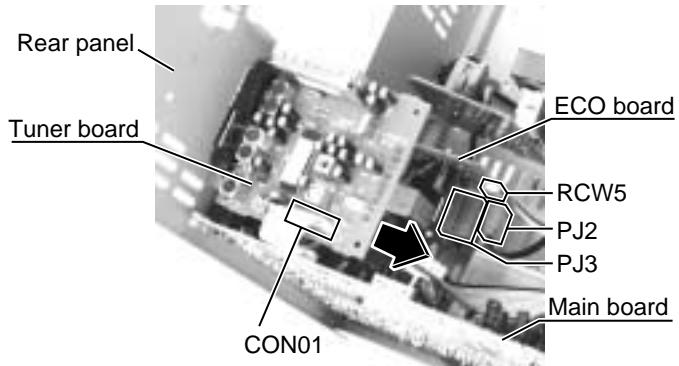

Fig.13
- Disconnect the power cord from the connector PJ2 on the ECO board (see fig.13) and pull up the power cord stopper upward.